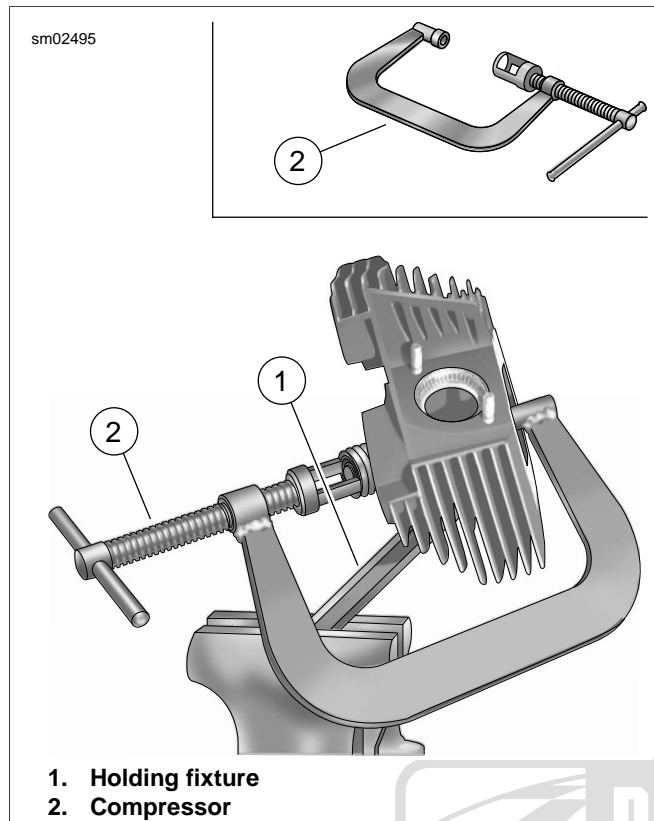
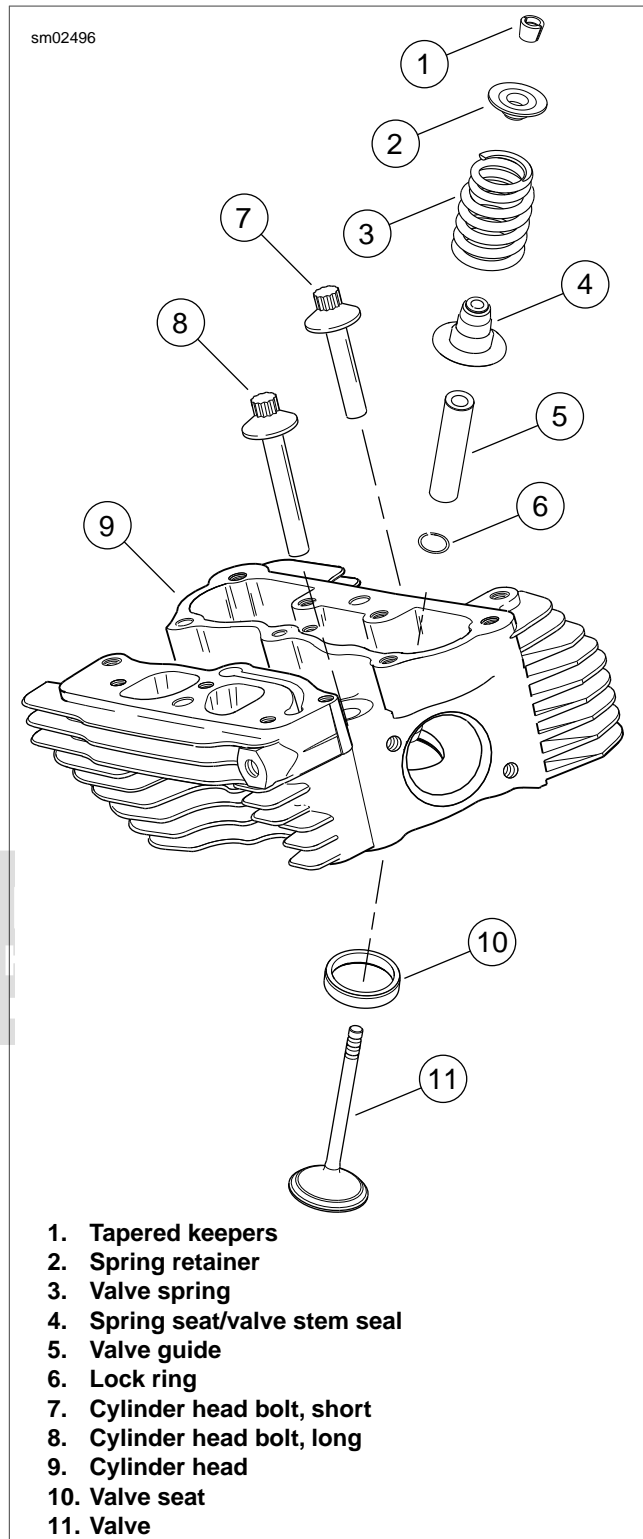

Figure 3-81. Valve Spring Compressor (Part No. HD-34736-B)
Figure 3-82. Cylinder Head Assembly
3. See Figure 3-81. Release valve spring compression.
- a. Place VALVE SPRING COMPRESSOR (Part No. HD-34736-B) (2) over cylinder head. Center blunt end on the valve head. Seat adapter at end of forcing screw on the valve spring retainer.
- c. See Figure 3-82. If spring retainer (2) has not broken free of tapered keepers (1), give head of tool a sharp tap with a soft mallet. Using magnetic rod or small screwdriver, remove the keepers (1) from the valve stem (11) groove.
4. Remove the spring retainer (2) and valve spring (3).
5. Slide the valve (11) from the valve guide (5).
- See Figure 3-82. Remove old gasket material from cylinder head (9). Gasket material left on sealing surfaces will cause leaks.